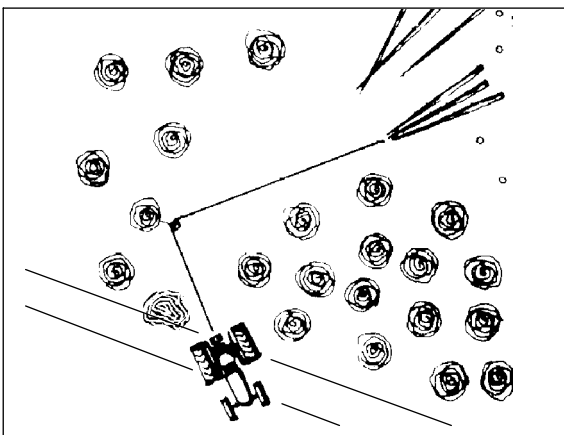

Fig. 7. Use a snatchblock to avoid winching sideways.
1. Choose a horizontal, hard based skidding route for the tractor. Avoid steep slopes, especially when winching from the side. Check that the winching trail is clear and that the tractor's parking brake is on. Do not run the tractor at a high idle when winching. Maximum P.T.O speed is 540 rpm. Ensure that the logs can be drawn freely. Be especially careful when working on slopes. Avoid winching sideways at angles exceeding 30 degrees. Use snatchblock which is fastened to the tree if needed. (See fig. 7.)